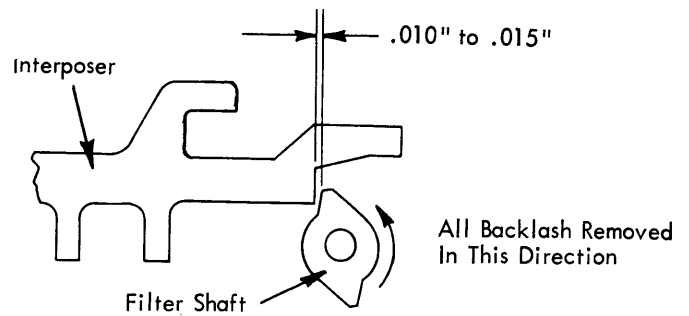

FIGURE 2. Filter Shaft Adjustment
1. Filter Shaft - With the cycle shaft in the rest position, the working surface of the filter shaft should clear a depressed interposer by .005" to .015" (Fig. 2).